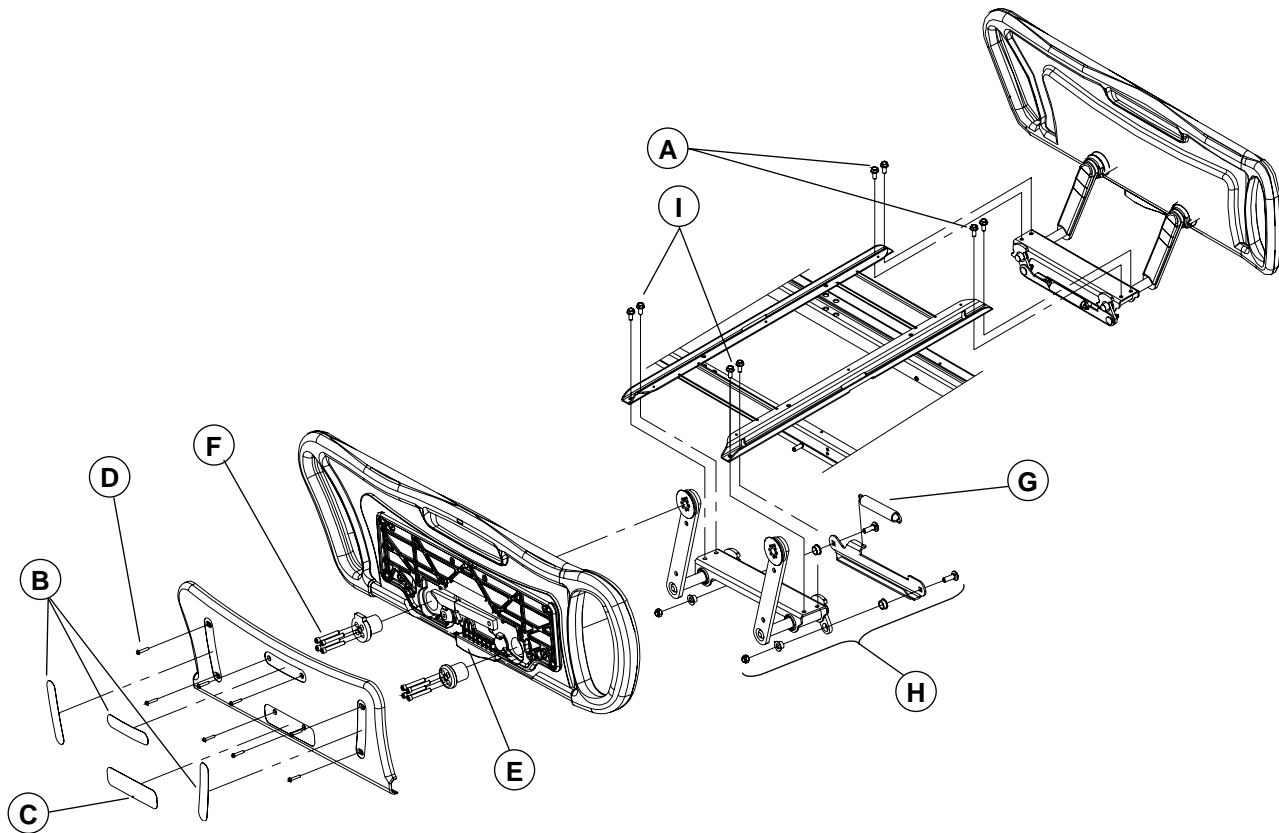

Figure 4.1B
Unless otherwise indicated, refer to figure 4.1B on page 18 for the illustration of this procedure reference points.
2. Using a 1/2" socket wrench, remove the four thread-rolling bolts (I, fig. 4.1B, page 18) holding the mechanism assembly to the support and remove the assembly.